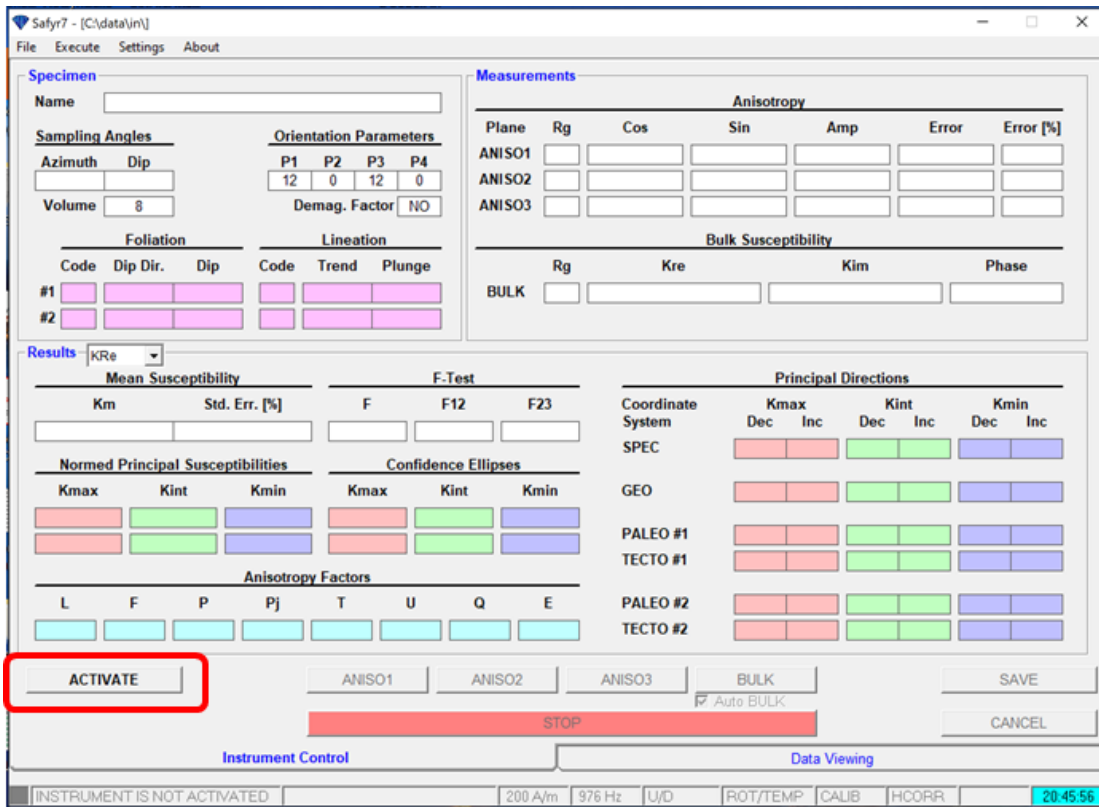

Figure 4: Activation of the MFK2
2. Select the **Activate** button at the bottom left of the window main Safyr 7 window (Figure 4)